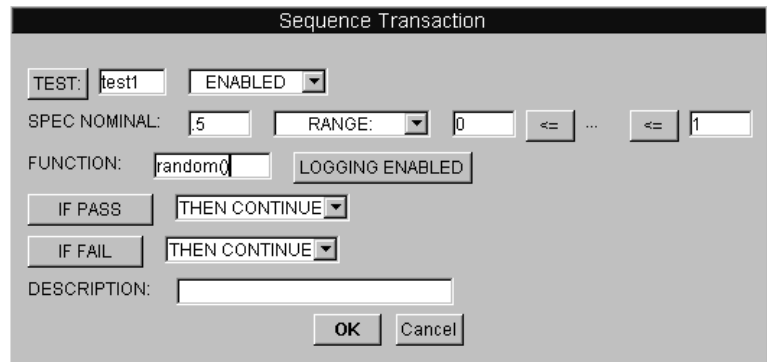

Figure 247 Configuring Test1
- 1 Click **Device** ⇒ **Sequencer**. Double-click the transaction bar, and configure your test using the default name, **test1**, and replacing the **FUNCTION:** field with **random()**. See Figure 247.